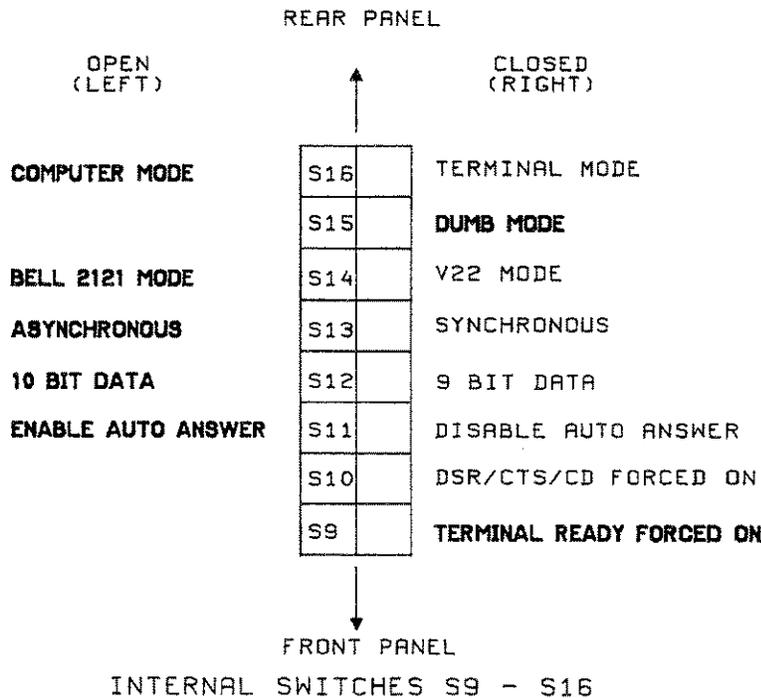

Figure G-4 Modem Switch Position
- (b) Set all the slide switches on the 8 position dual-in-line switch to the left, except for switches 9 and 15. The HP37212A modem is now configured; in the computer mode; in the Dumb mode; in the Bell 212A mode; for Asynchronous data; for 10 bit data (1 start + 7 data + 1 parity + 1 stop); Auto Answer Enabled; and with DTR forced on. See Figure G-4.